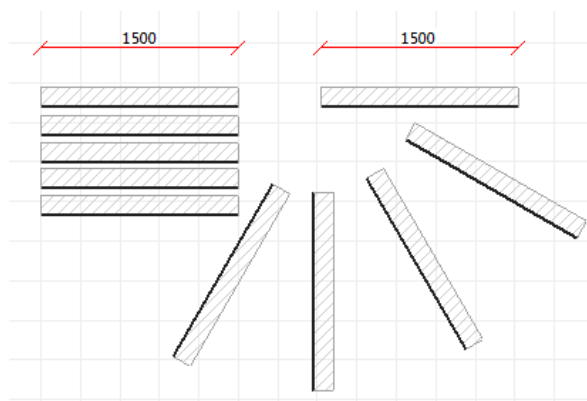
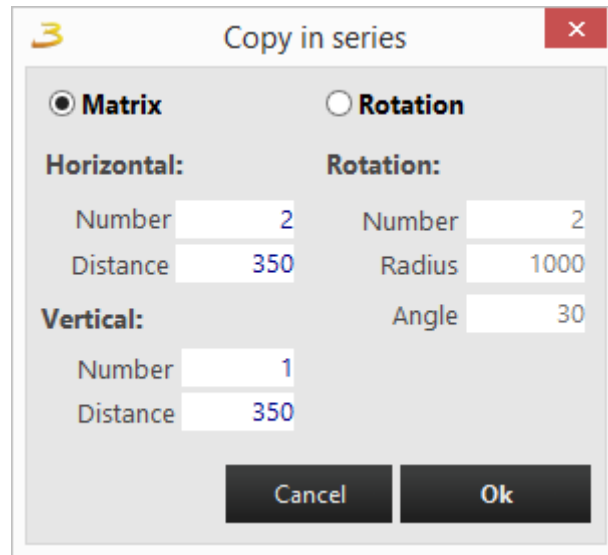

Figure 6.2: Copy in series
Figure 6.3: Copy in series window
- ✧ Copy in series: it enables to create copies of the walls by setting parameters from the menu, see figure 6.2 and figure 6.3.